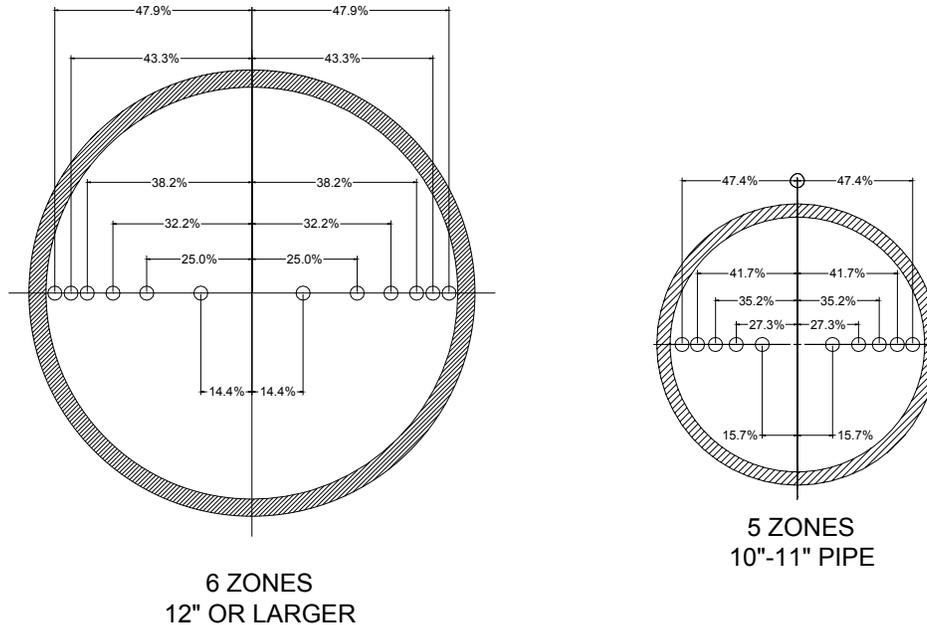

Figure 7 -- Equal Area Traverse Grid per ASME Performance Test Code
2. Traverse points on the dirty air probe are marked on an equal area grid in accordance with the ASME Performance Test Code for traversing circular ducts. When marking the dirty air probe, be sure to offset the first mark to accommodate for the length of the test port nipple, pipe wall and dustless connector. This ASME standard, for pipes with 10" or larger diameters, is illustrated by the Figure 7.